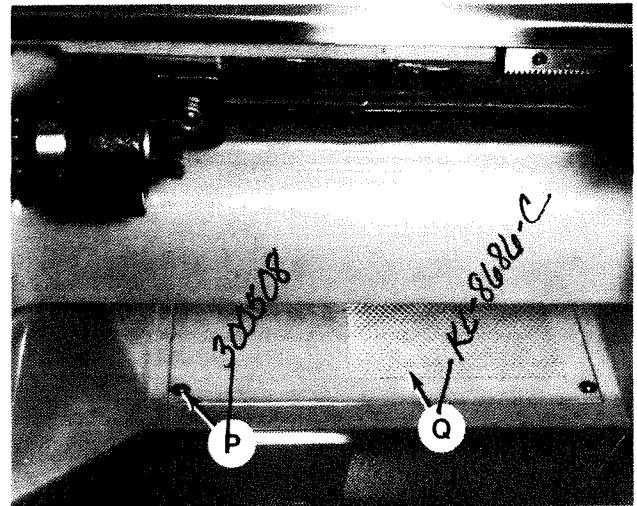
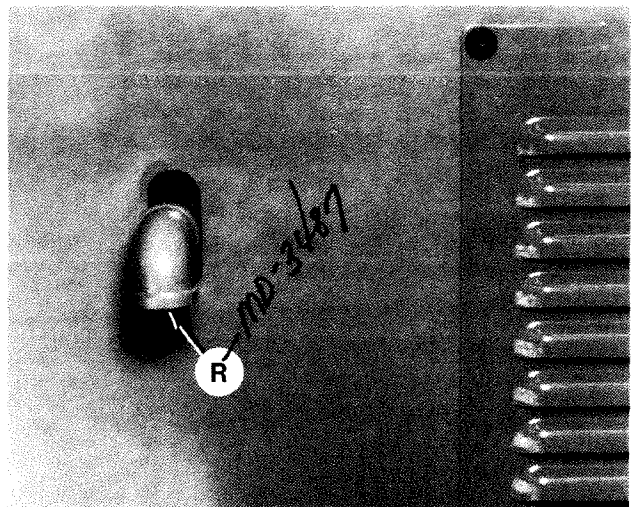

Figure 4.4 - Coolant Sump Cover
Figure 4.5 - Coolant Drain Plug
2. Remove four screws "P", washers, and sump cover "Q", Figure 4.4.
3. Place a drain pan capable of holding at least 3 gallons of liquid under pipe plug "R", Figure 4.5.
7. Replace sump cover "Q", Figure 4.4, and pipe plug "R", Figure 4.5.